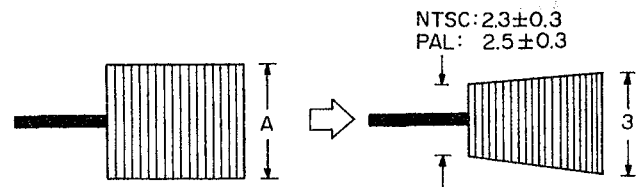
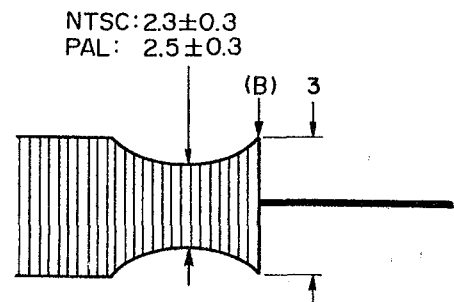
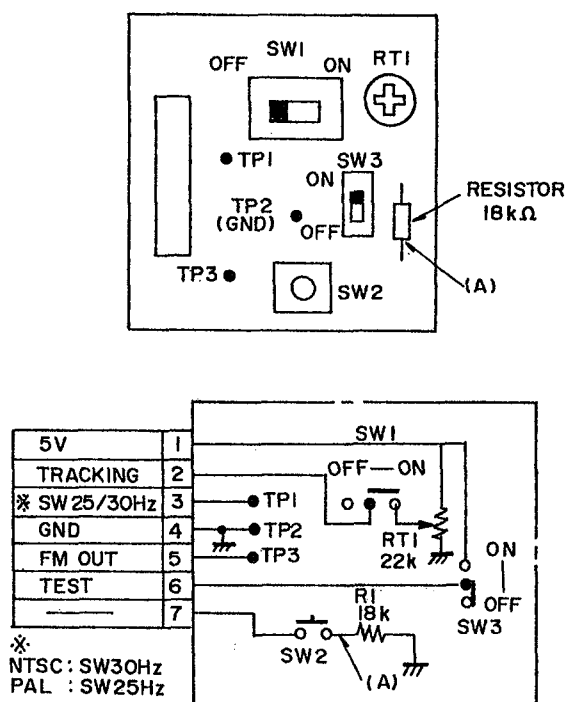

Fig. 4-1
Fig. 4-2
Fig. 6-1
<p>● Adjustment procedure</p> <p>Caution: Before performing this adjustment, refer to Fig. 6-1 and modify the ATF-R jig. Connect the ATF-R jig before supplying power.</p> <p>1) Load an alignment tape that has been completely rewound. Press the PLAY button and hold it, then set the POWER switch to VIDEO position.</p> <p>2) Connect an oscilloscope to TP3 on the ATF-R jig.</p> <p>3) Synchronize the oscilloscope with TP1 (SW25/30) on the ATF-R jig.</p> <p>4) Set the oscilloscope to (+) slope.</p> <p>◆ Supply Guide Roller (Fig. 3-4)</p> <p>5) Press SW2 on the ATF-R jig and hold it, then perform the following steps.</p> <p>6) Adjust the height of the supply guide roller so the waveform is flat.</p> <p>7) Adjust the voltage level control of the oscilloscope so that portion (A) of the waveform is set to 4 graduations.</p> <p>8) Set SW1 on the ATF-R jig to ON.</p> <p>9) Turn RT1 on the ATF-R jig counterclockwise so that portion (A) of the waveform is set to 3 graduation.</p> <p>10) Adjust the height of the supply guide roller so minimum amplitude of the waveform is set to NTSC: <math>2.3 \pm 0.3</math> / PAL: <math>2.5 \pm 0.3</math> graduations.</p> <p>◆ Take-up Guide Roller (Fig. 3-5)</p> <p>11) Set the oscilloscope to (-) slope.</p> <p>12) Adjust the voltage level control of the oscilloscope so that portion (B) of the waveform is set to 4 graduations.</p> <p>13) Turn RT1 on the ATF-R jig counterclockwise so that portion (B) of the waveform is set to 3 graduations.</p> <p>14) Adjust the height of the take-up guide roller so the minimum amplitude of the waveform is set to NTSC: <math>2.5 \pm 0.3</math> / PAL: <math>2.3 \pm 0.3</math> graduations.</p> <p>Caution: After adjustment is completed, be sure to reverse the modification to ATF-R jig.</p>
#### 4. ADJUSTMENT AFTER REPLACING THE CYLINDER (Figs. 4-1, 4-2)
<p>● Adjustment procedure</p> <p>Caution: Before performing this adjustment, refer to Fig. 6-1 and modify the ATF-R jig.</p> <ol style="list-style-type: none"> <li>1) Load an alignment tape that has been completely rewound. Press the PLAY button and hold it, then set the POWER switch to the VIDEO position.</li> <li>2) Connect an oscilloscope to TP3 on the ATF-R jig.</li> <li>3) Synchronise the oscilloscope with TP1(SW25/30) on the ATF-R jig.</li> <li>4) Set the oscilloscope to (+) slope.</li> <li>5) Press SW2 on the ATF-R jig and hold it, then perform the following steps.</li> <li>6) Adjust the voltage level control of the oscilloscope so that portion (A) of the waveform is set to 4 graduations.</li> <li>7) Set SW1 on the ATF-R jig to ON.</li> <li>8) Turn RT1 on the ATF-R jig counterclockwise so that portion (A) of the waveform is set to 3 graduations.</li> <li>9) Adjust the height of the supply guide roller so the minimum amplitude of the waveform is set to NTSC: <math>2.3 \pm 0.3</math> / PAL: <math>2.5 \pm 0.3</math> graduations. (See Fig. 4-1)</li> <li>10) If this cannot be confirmed, adjust the height of the supply guide roller, referring to "3-3. Supply/Take-up Guide Roller Height Adjustment".</li> <li>11) Set the oscilloscope to (-) slope.</li> <li>12) Turn RT1 on the ATF-R jig so that portion (B) of the waveform is set to 3 graduations.</li> <li>13) Check that the minimum amplitude of the waveform is set to NTSC: <math>2.3 \pm 0.3</math> / PAL: <math>2.5 \pm 0.3</math> graduations. (See Fig. 4-2)</li> </ol> <p>If this cannot be confirmed, adjust the height of the take-up guide roller, referring to "3-3. Supply/Take-up Guide Roller Height Adjustment".</p> <li>14) Perform the following electrical adjustments. <ul style="list-style-type: none"> <li>• Head switching point adjustment</li> <li>• Record luminance/chroma level adjustment</li> </ul> </li> <p>Caution: After adjustment is complete, be sure to reverse the modification to ATF-R jig.</p>
## 6. MODIFICATION TO ATF-R JIG (Fig. 6-1)